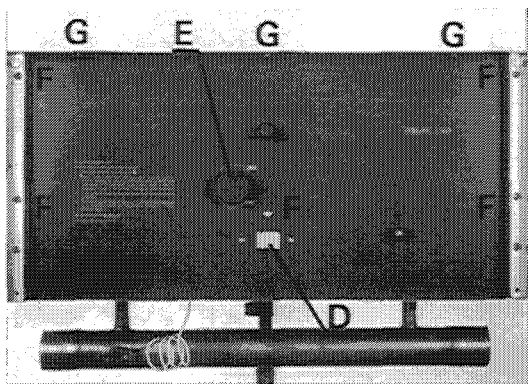

Fig. 19
- The boiler is now ready to operate and will light when switched on at ON/OFF switch and thermostat is turned to + which starts the pump (D and E fig. 19).
- Fit control module cover, secure with five screws two each side and one in centre (F fig. 19).
- Fit front panel by hooking on pegs at top of boiler and secure with three screws G along bottom (fig. 19).
- The hinges are held in position by a metal strap (fig. 19).